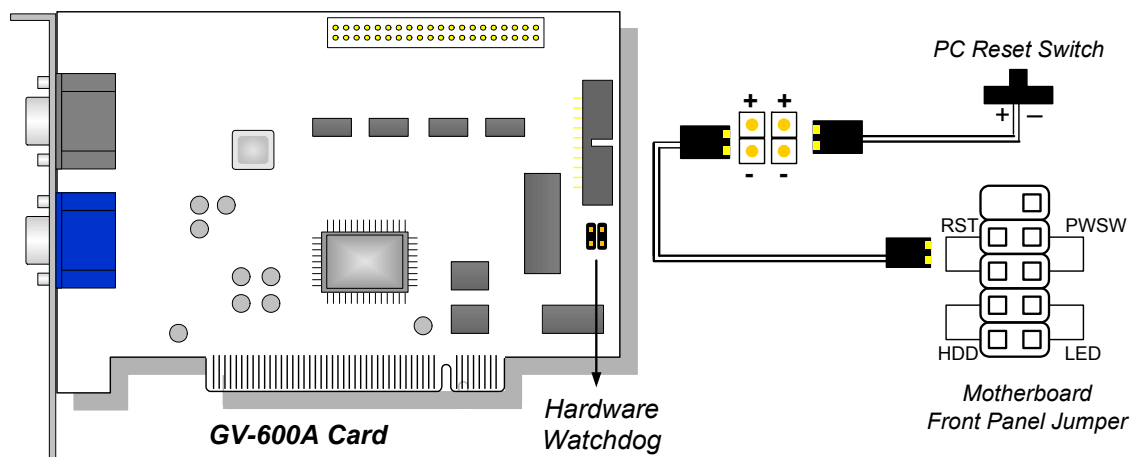

Figure 1-51
- **Hardware Watchdog Connection:** Connect the supplied Hardware Watchdog Jump Wire to the Master Card only (Figure 1-51).